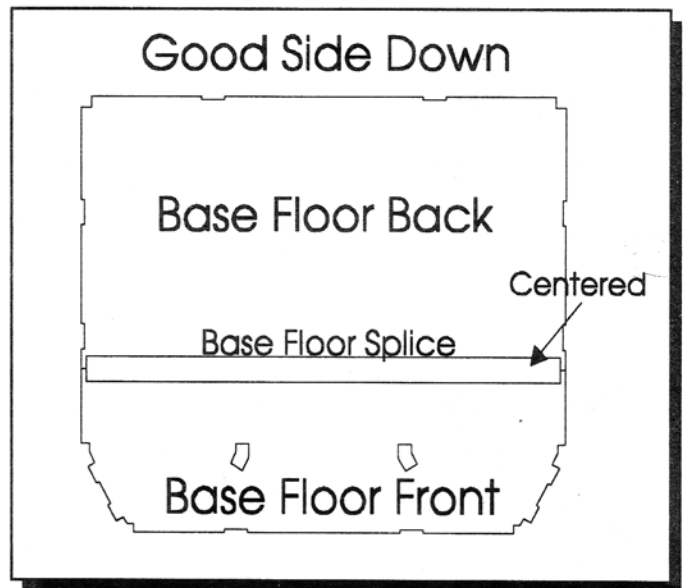

Figure 5
2. Tape the Base Floor Front and Back together along the junction line on the good side. Turn Base Floor assembly over so the good side is down. Glue Base Floor Splice in place with the splice centered over the junction line and equal distance from ends of splice to edges of floors as in Figure 5. Place weights on Splice until dry.